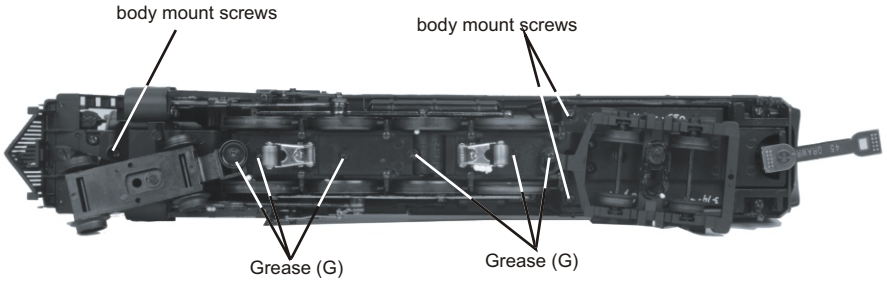

Figure 8: Removing the Body and Lubricating the grease points
2. Remove the Phillips screws (marked “GREASE”) located at each set of wheels and under pick up rollers (Fig. 8).
You should also grease the leading and trailing locomotive truck tongues to enhance their ability to slide on the chassis. Follow the grease points shown on Fig. 8.
2. Remove the 3 body mount screws shown in Fig 8.
If you experience poor or no smoke output when the smoke unit is on and has fluid, check the wick to see if it has become hard, blackened, and unabsorbent around the heating element. To remove the smoke unit you will first have to remove the boiler shell (by removing the body mounting screws shown in Fig. 8 on pg 13), board and bracket that block the smoke unit assembly from being accessed.